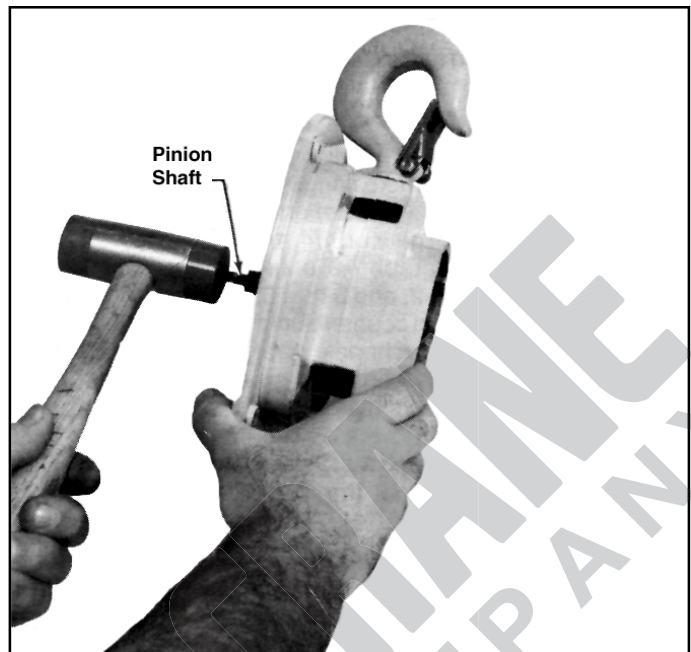

Figure 7-3. Removing Pinion Shaft
- Remove retaining ring from pinion shaft (on hand wheel side of frame) and tap out pinion shaft. See Figure 7-3. Ball bearing should come out with pinion shaft.